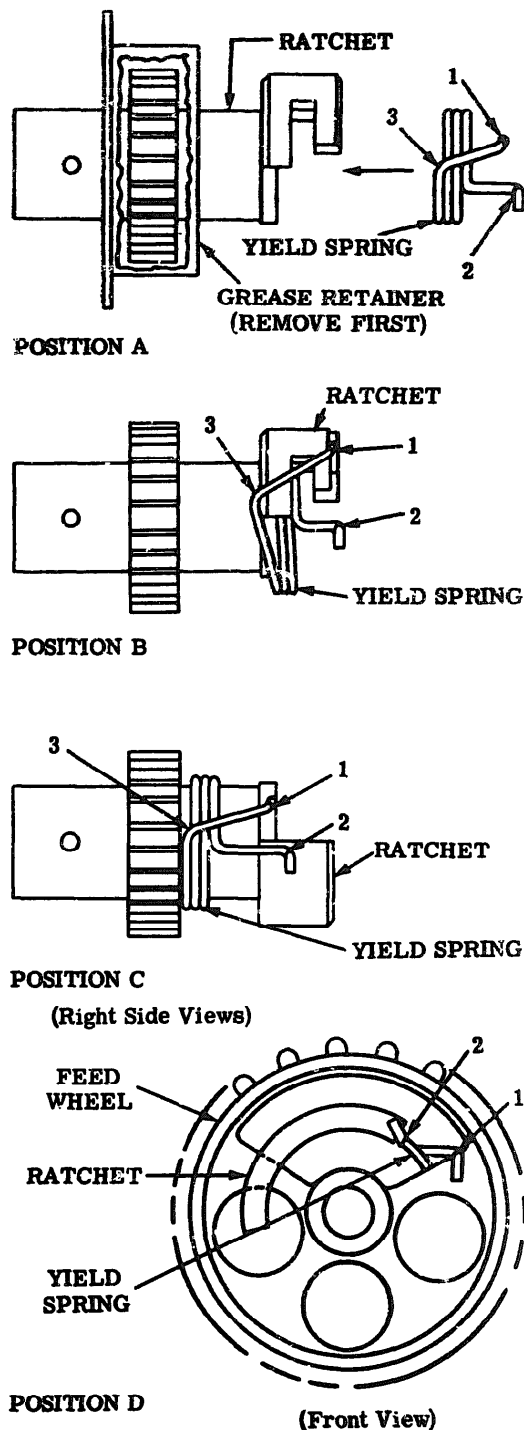

Figure 4 - Yield Spring Assembly
(3) Remove the feed (escapement) pawl (TP177815) and its eccentric post (TP177836) by removing the nut (TP3598) and lockwasher (TP2191) that secure the eccentric post to the feed wheel plate.
(4) Remove the feed wheel guide locknut (TP3598) and lockwasher (TP2191) and, with an Allen wrench, screw the feed wheel guide (2000 wpm, TP177863, or 2400 wpm, TP149801) in toward the rear of the unit until the feed wheel is released.
(5) Remove the feed wheel, yield spring and ratchet, and the drive spring as an assembly through the rear of the feed wheel plate.
(6) Referring to Figure 4, disengage ratchet and yield spring (shown in position D) by carefully gripping bend 1 with a long nose pliers and pulling the spring away from the feed wheel.
(7) Unwind the yield spring counterclockwise while holding bend 2 with a long nose pliers.
(1) Bring the yield spring to the ratchet as shown in Figure 4, position A.
(2) Using a long nose pliers to hold bend 1, lift bend 3 over ratchet as shown in Figure 4, position B.
(3) Still holding bend 1 with pliers, turn the yield spring clockwise onto the ratchet with bend 2 in place as shown in Figure 4, position C.
(4) Assemble feed wheel to ratchet with yield spring bends in place as shown in Figure 4, position D.